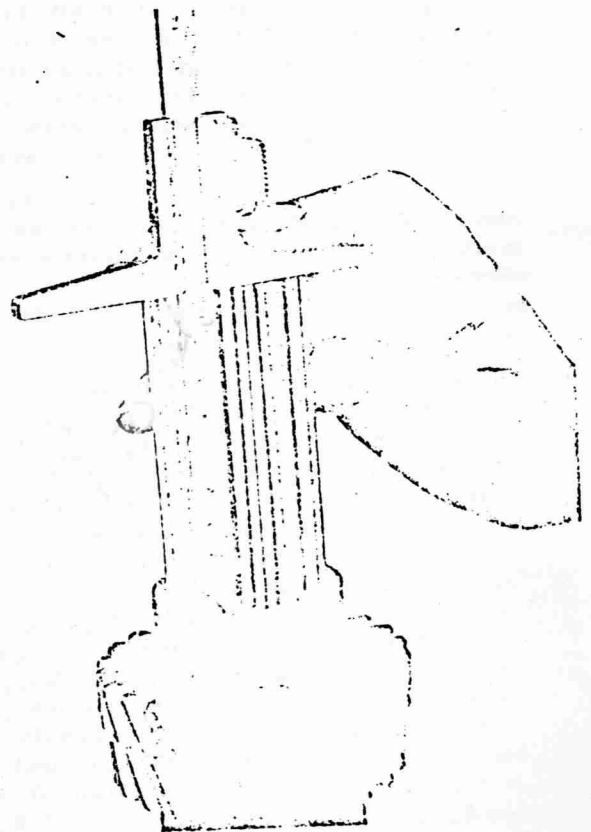

Fig. 30
1. Press the inner ring with the assembled rollers (402) on the output shaft until it rests against the pinion. Mount 5 th speed gear (404) with teeth towards bevel pinion, speedometer worm (405), 4 th speed gear (406), with collar towards speedometer pinion and the 3 rd speed gear (407) with teeth towards 4 th speed gear. Clamp mounting plate . 4 . in a vice. Place the output shaft into the bore so that the pinion is facing downwards. With the aid of a depth gauge measure the distance from the 3 rd speed gear to the end of the splined section on the output shaft (Fig. 30).